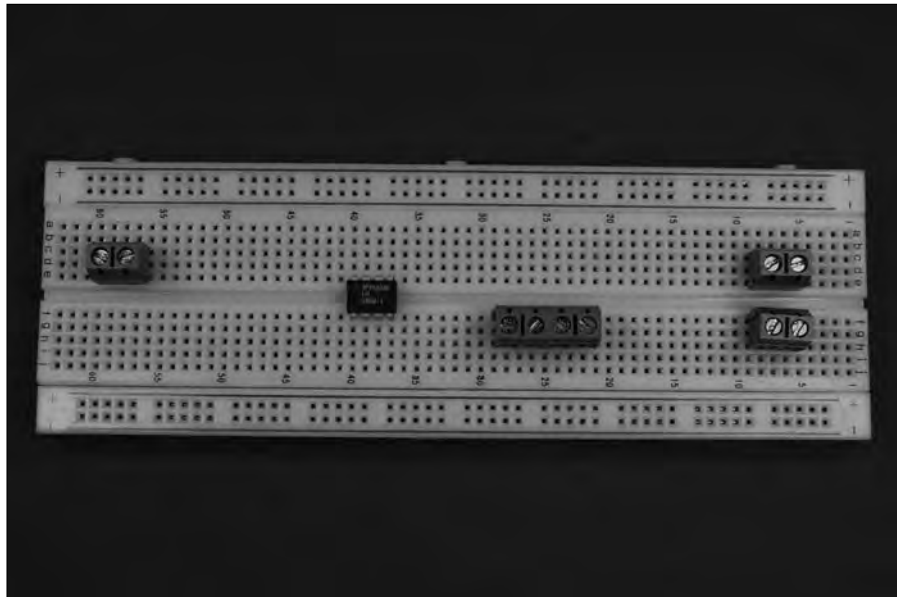

Figure 6-5:
1. **Place LM386N-1 (IC2) and five terminal blocks (TB) on the breadboard, as shown in Figure 6-5.**